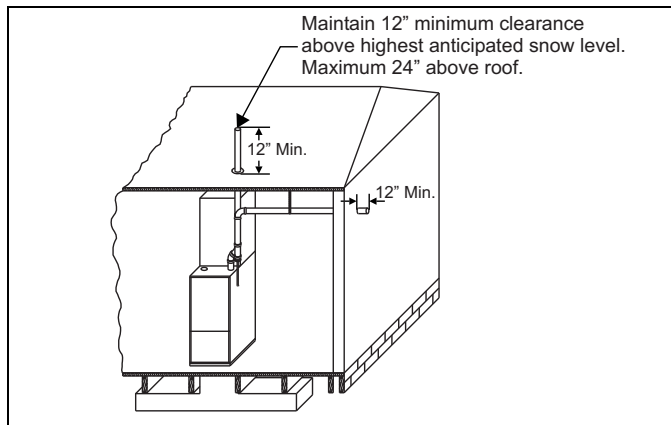

FIGURE 28: Termination Configuration - 1 Pipe
7. Direct vent systems must be installed so the vent and the combustion air pipes terminate in the same atmospheric zone. Refer to Figures 28 or 30.
The combustion air side of the single pipe configuration shown in Figure 28 is referred to in these instructions as ambient combustion air supply. Follow the instructions for ambient combustion air installations, paying particular attention to the section on air source from inside the building. The vent for a single pipe system must be installed as specified in the venting section of these instructions with the vent terminating as shown in Figure 28. Each furnace must have a separate vent pipe. Under NO circumstances can the two vent pipes be tied together.
2. **AMBIENT COMBUSTION AIR:** Combustion air is supplied from the area surrounding the furnace through openings in the furnace casing. The combustion air and the vent pipes are not terminated in the same atmospheric zone. Refer to Figures 28 - 32 for vent terminations. Refer to "Ambient Combustion Air Supply" for proper installation. Refer to Figure 35.